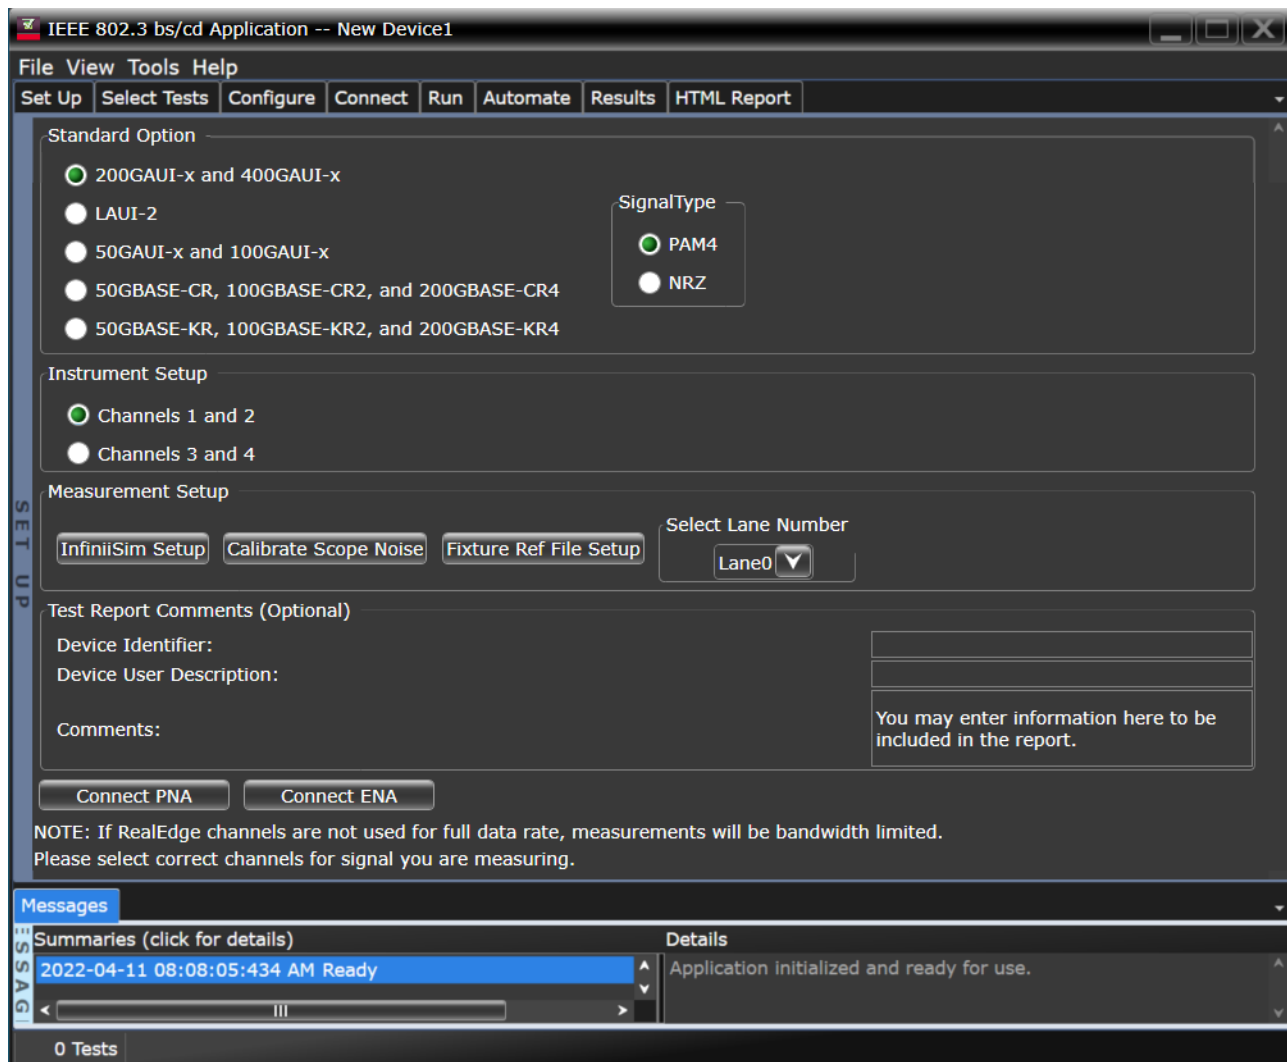

Figure 5 IEEE802.3 bs/cd Test Application main window on a UXR Oscilloscope
- **Figure 5** shows the Keysight D9010EBSC IEEE802.3 bs/cd Test Application window as it appears when launched within the Infiniium application of the UXR Oscilloscope. The Instrument Setup area in the Set Up tab displays the corresponding Channel assignments.
- 1 In the **Set Up** tab (shown in Figure 5), select the **Standard Option** and **SignalType** to filter the test groups in accordance with the connected DUT. Table 1, Table 2, Table 3 and Table 4 show a comprehensive list of the tests that are filtered in the **Select Tests** tab for each combination of **Standard Option** and **SignalType**.